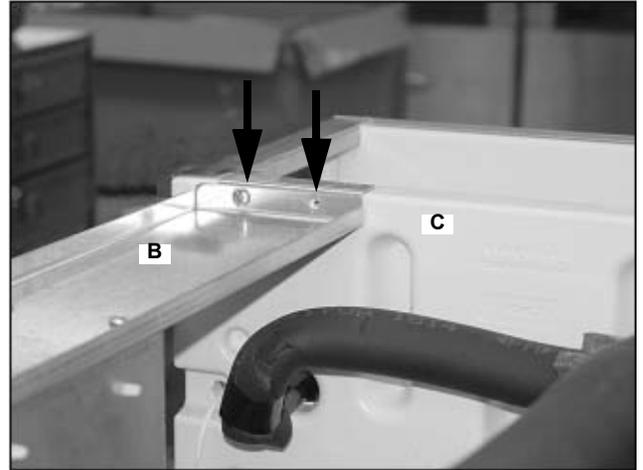

Figure 45.
49. Attach the support brace (B) to the evaporator bulkhead (C) with 2 Phillips head screws (Figure 45).